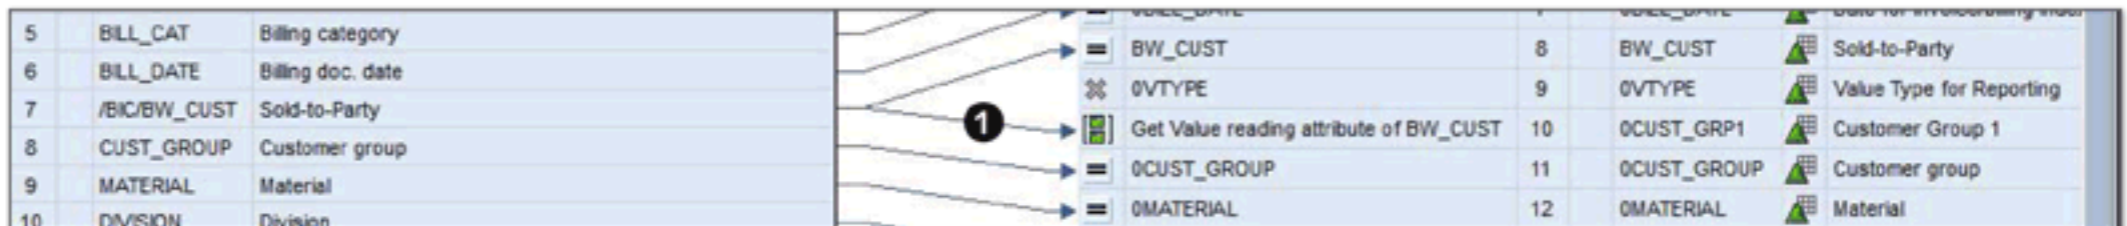
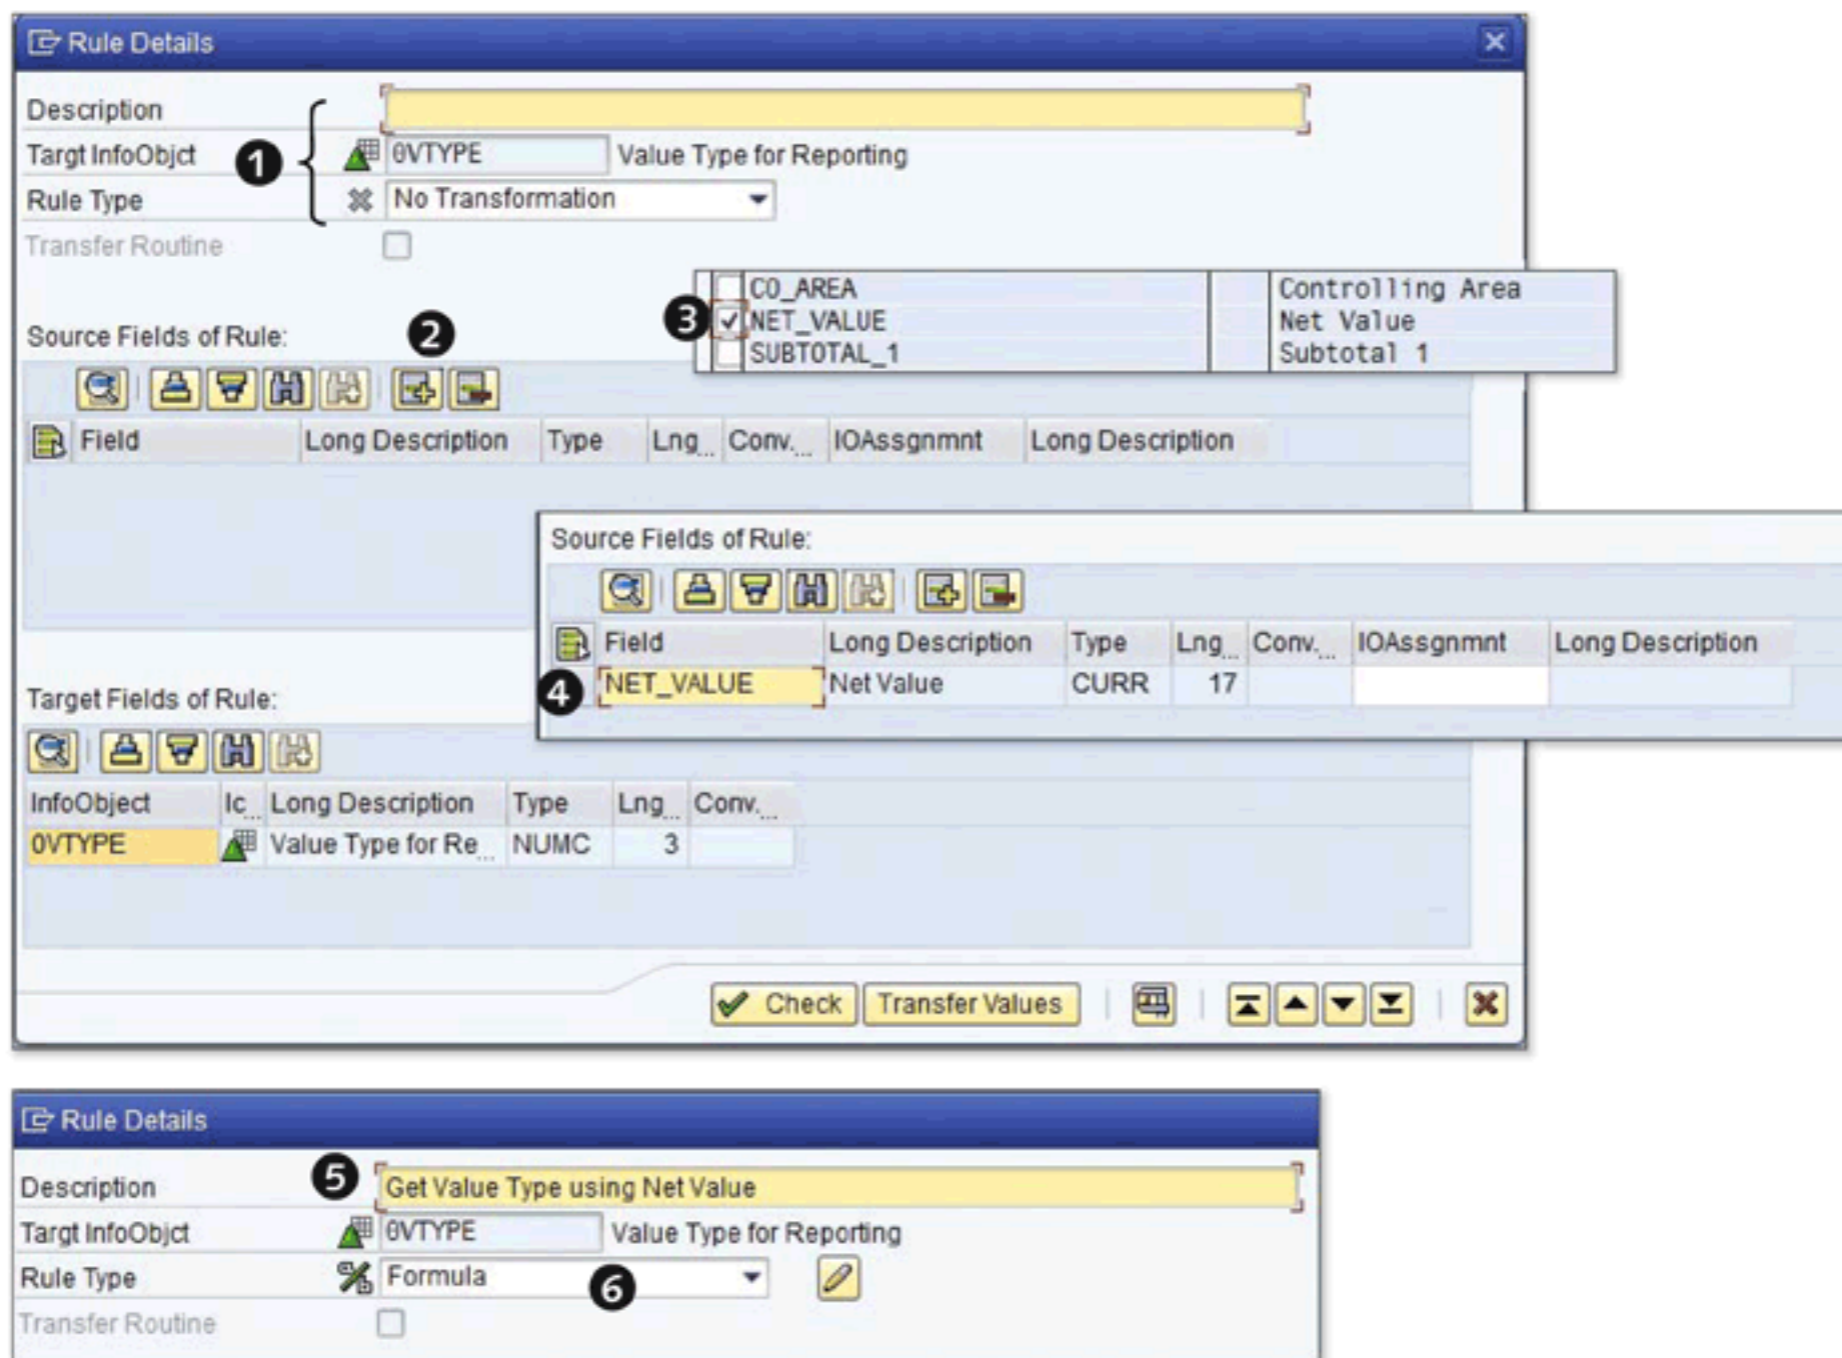

Figure 7.61 Read Master Data Transformation Configured
Figure 7.62 Selecting the Formula Transformation Type
As shown in 1 of Figure 7.61, the new rule is now available for target InfoObject OCUST_GRP1 (indicated by this icon: ).
Select the target object OVTYPE (❶ of Figure 7.61) in the transformation screen, and double-click on it to open the RULE DETAILS screen (alternatively, you can open the context menu). The rule details for OVTYPE are shown in Figure 7.62.
To use the NET VALUE field to derive the value of OVTYPE, you must add the field under SOURCE FIELDS OF RULE. To do this, click on the icon shown in ❷ of Figure 7.62. This results in ❸. Select NET_VALUE, and click on the CONTINUE icon. NET_VALUE is now available under SOURCE FIELDS OF RULE (❹).